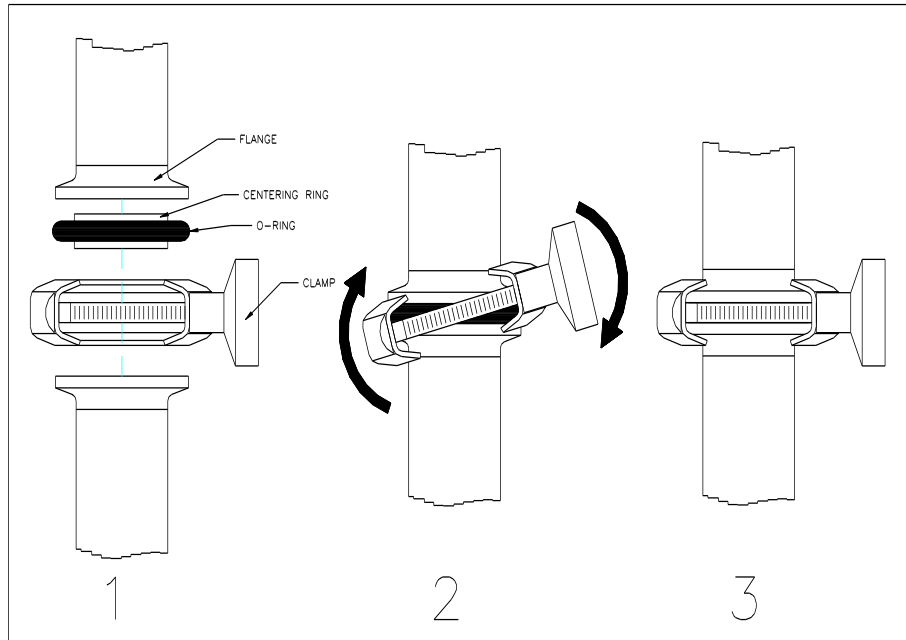
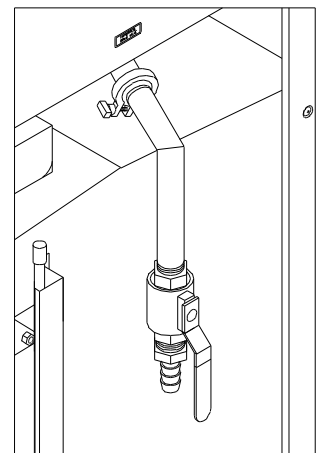

Figure 1
Figure 2
2. Place tower on one side of the tower exit and connect it as shown in **Figure 1**. Do not over tighten the clamp. Connect other side of tower in the same manner. When both sides are in place with the clamp properly positioned, tighten clamps to firmly hold tower in place.
- While holding the flanges together, lift the clamp up and twist it on as shown in **Figure 1 #2**.
- Tighten the 3/4" ball valve onto the drain extension making sure that the handle is opposite of the flange as shown in **Figure 2**. Tighten barb fitting into valves other side.
- Place complete drain assemble onto boiling tank drain using the clamping technique shown in **Figure 1**. Be sure to place drain pointing downwards and parallel with holding tank as shown in **Figure 2**.